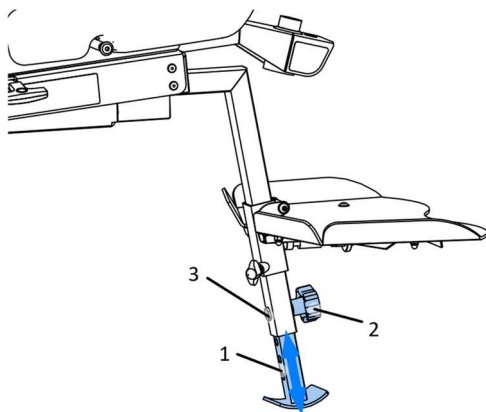

Fig. 27
7.9 Support leg length adjustment Fig. 27
7.12 Support leg length adjustment Fig. 27